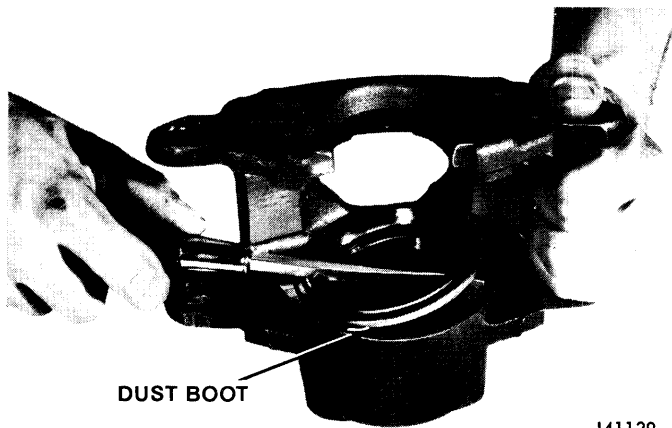

Fig. 9-33 Dust Boot Removal
(9) Pry dust boot out of bore with screwdriver (fig. 9-33). Do not scratch bore. Discard dust boot.